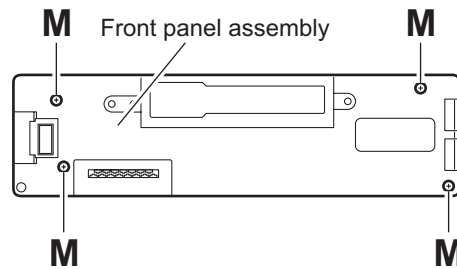

Fig.11
(See Fig.11 to 13)
- (1) Remove the four screws **M** attaching the rear cover on the back of the front panel assembly. (See Fig.11)